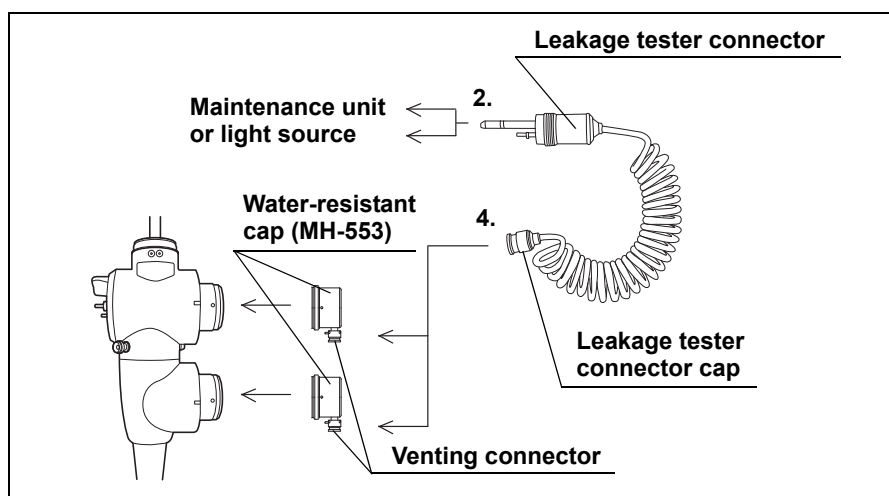

Figure 7.25
2. Insert the leakage tester connector into the output socket of the maintenance unit or the light source (see Figure 7.25) and turn the maintenance unit or the light source ON. Set the light source's airflow regulator switch to its maximum level.
4. Connect the leakage tester's connector cap to either one of the two venting connectors that are in the water-resistant caps of the video cable connector and the ultrasonic cable connector (see Figure 7.25).